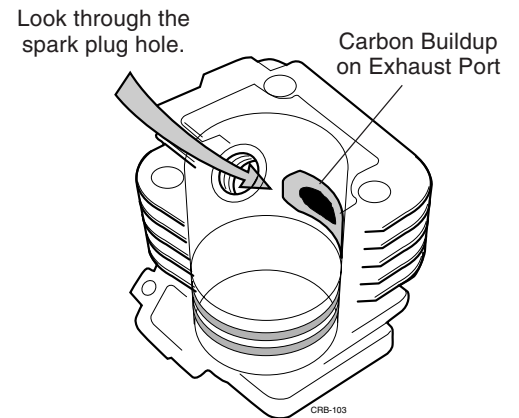

Figure 9.4 Inspect Exhaust Port for Carbon Buildup
STEP 3. Look through the spark plug hole and inspect the cylinder exhaust port for carbon buildup (Figure 9.4).